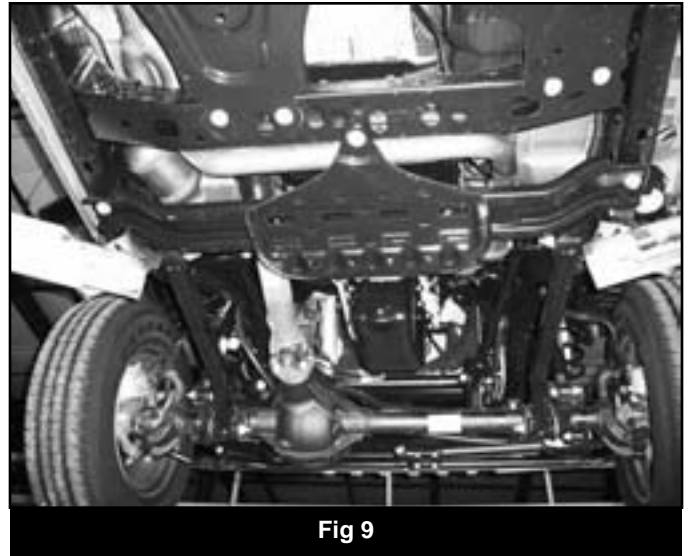

Fig 9
23. Remove the three bolts mounting the transmission skid plate to the frame rails and transmission crossmember (Fig 9). This skid plate will not be reused. Retain the mounting hardware.